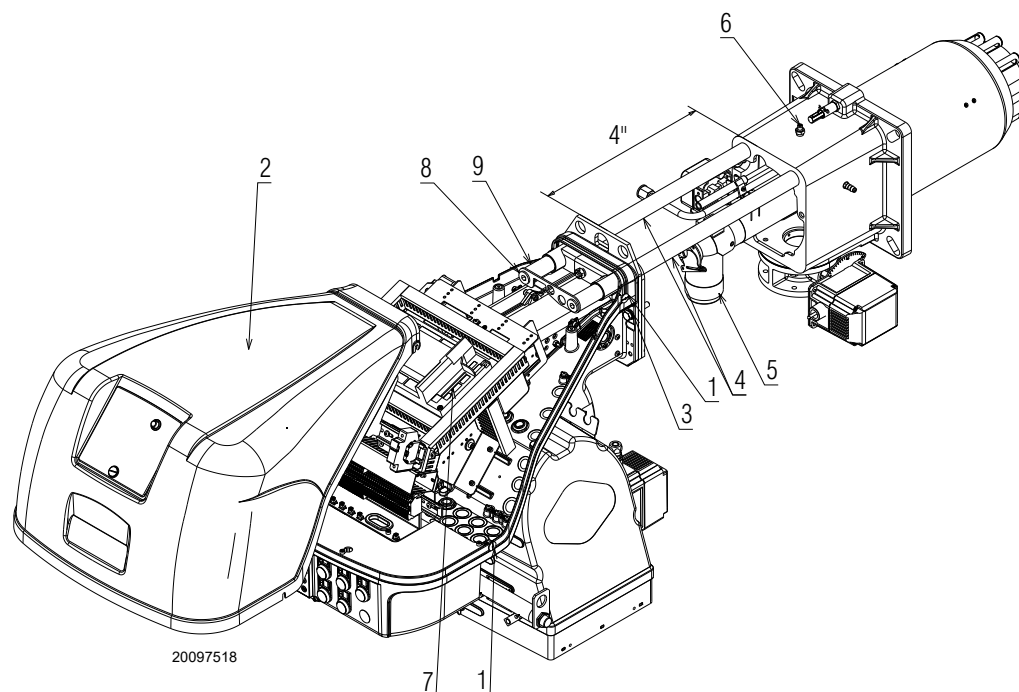

Fig. 39
- loosen the 4 screws 1)(Fig. 39) and remove the cover 2);
- remove the 2 extensions 9)(Fig. 39) and re-screw the screws 8) on the sliding bars 4);